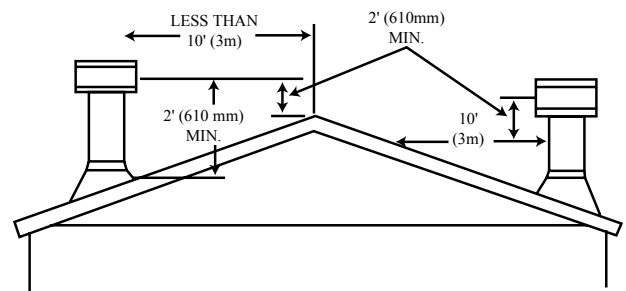

Fig. 40
- The minimum height of the vent above the highest point of penetration through the roof is 2'. See Fig. 40.
10. Add additional vent lengths for proper height. Fig. 40.